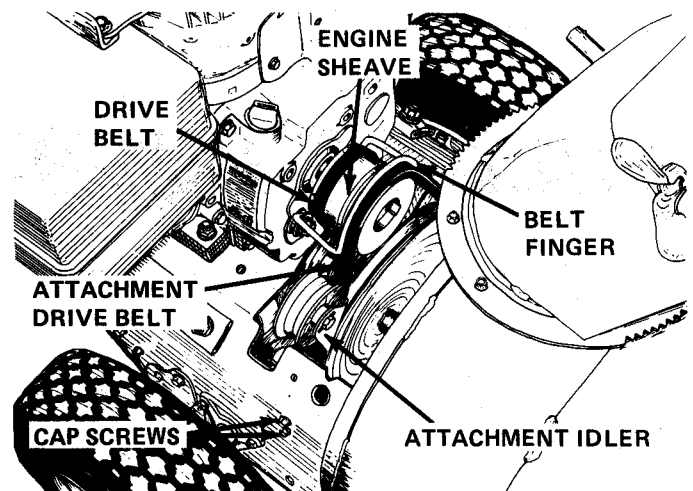

FIGURE 11
REPLACEMENT OF BLOWER HOUSING SEE FIGURE 11.
6. Replace the belt guard and chute crank assemblies. Re-adjust the chute crank as described in the paragraph above. Replace the spark plug wire. See Figure 11.